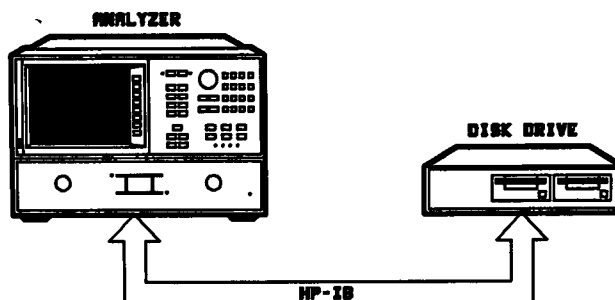

Figure 5-6. EEPROM Backup Procedure Setup
1. Connect the instruments as shown in Figure 5-6 and turn them on. Make sure the drive is set to HP-IB address 00. Then press **LOCAL** **SYSTEM CONTROLLER**.
1. Connect the instruments as shown in Figure 5-6. Make sure the drive is set to HP-IB address 00.